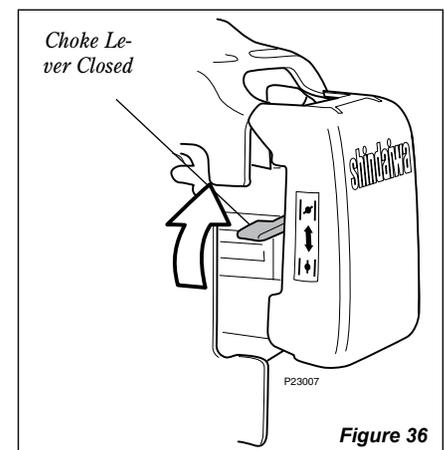

Figure 36
4. Choke the engine by moving the choke lever up to the “closed” position. See Figure 36.